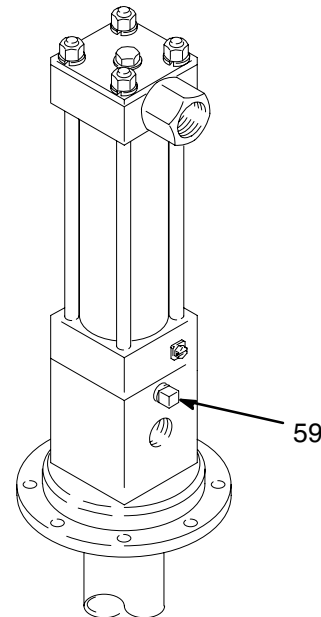

Fig. 2
- **Drain Line:** Remove the plug (59) from the pump adapter and install a 1/8" diameter weep tube (B), ending in a waste container. Monitor the weepage of hydraulic fluid. If it seems excessive or increases suddenly, the reciprocator/pump seals may need to be changed. See Fig. 2.